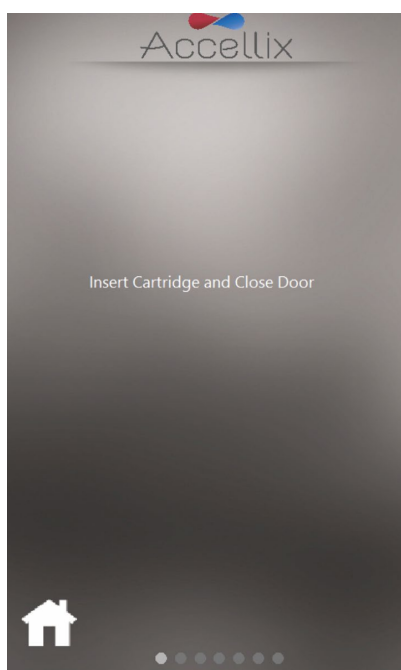

Figure 35: Insert Cartridge screen
Note: From this point forward, the highlighted gray dot at the bottom of the screen shows the current stage of the assay run. (See Figure 35)
4. When prompted by the instrument (Figure 35), open the door by pressing down on the front right-hand indent corner of the door and releasing. Next, insert the cartridge into the instrument by pushing it down using the top handle. Once the cartridge is inserted, push the handle on the right-hand side a bit more until a click is heard and felt, ensuring that the cartridge has been inserted fully into the instrument Cartridge Handling Unit (CHU).